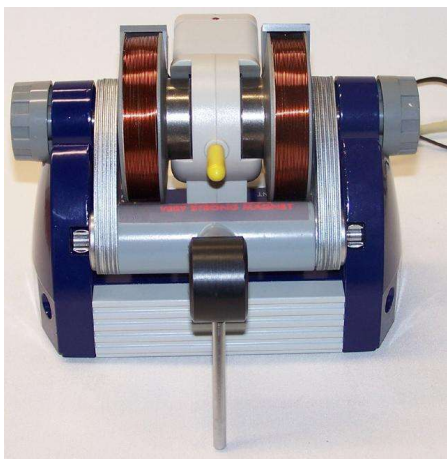

Fig. 2 Base unit with glycerine sample inserted
- Insert the glycerine sample (yellow top) into the sample chamber (see Fig. 2).